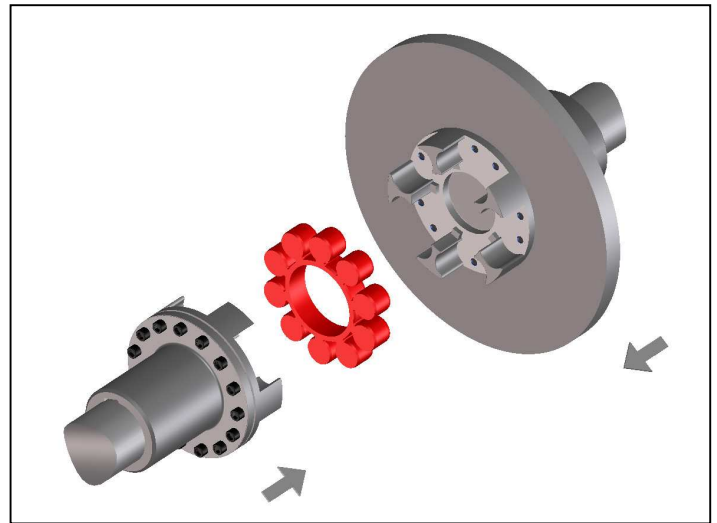

Fig. 6
- Push the shaft ends with the mounted coupling halves together (Fig 6).